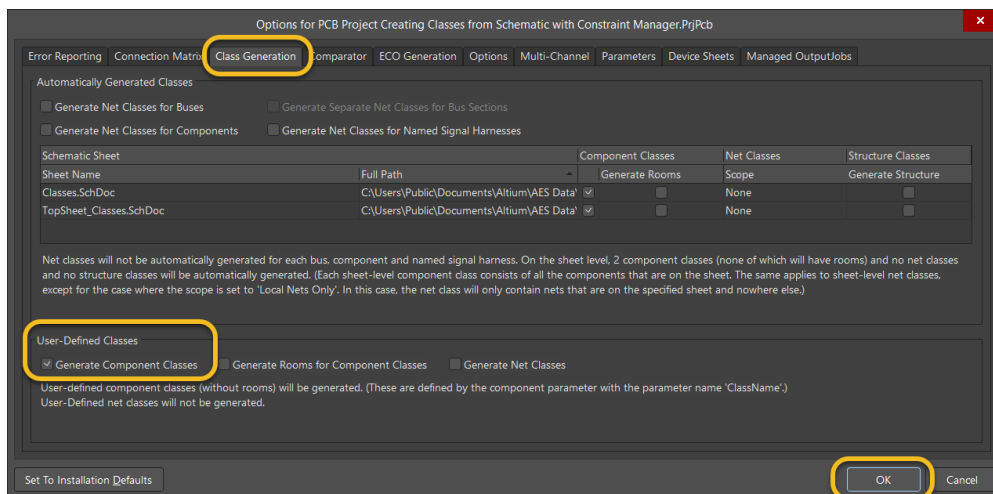

Figure 17. Project Options for User Class Configuration
58. Select the menu option **Project » Project Options** to open the *Options for PCB Project* dialog and select the *Class Generation* tab. In order for the Component classes defined in the schematic editor to update to the PCB. The **User-Defined Classes** in the lower portion of the dialog must be enabled. Verify that the **Generate Component Classes** option is enabled. See Figure 17.